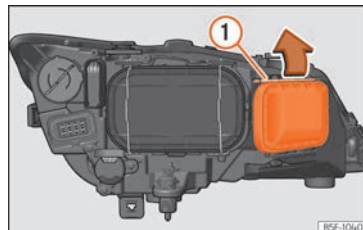

Fig. 57 Turn signal bulb.
- Move the loop » **Fig. 57** ① in the direction of the arrow and remove the cover.